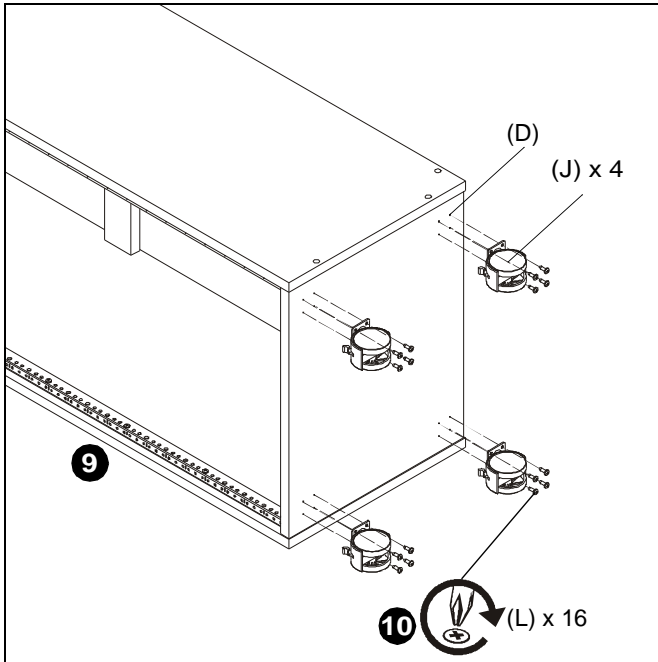

Figure 3
9. Carefully set assembled rack on its side. (See Figure 3)
10. Use remaining sixteen #10 x 5/8" wood screws (L) to secure four casters (J) to rack bottom (D). (See Figure 3)